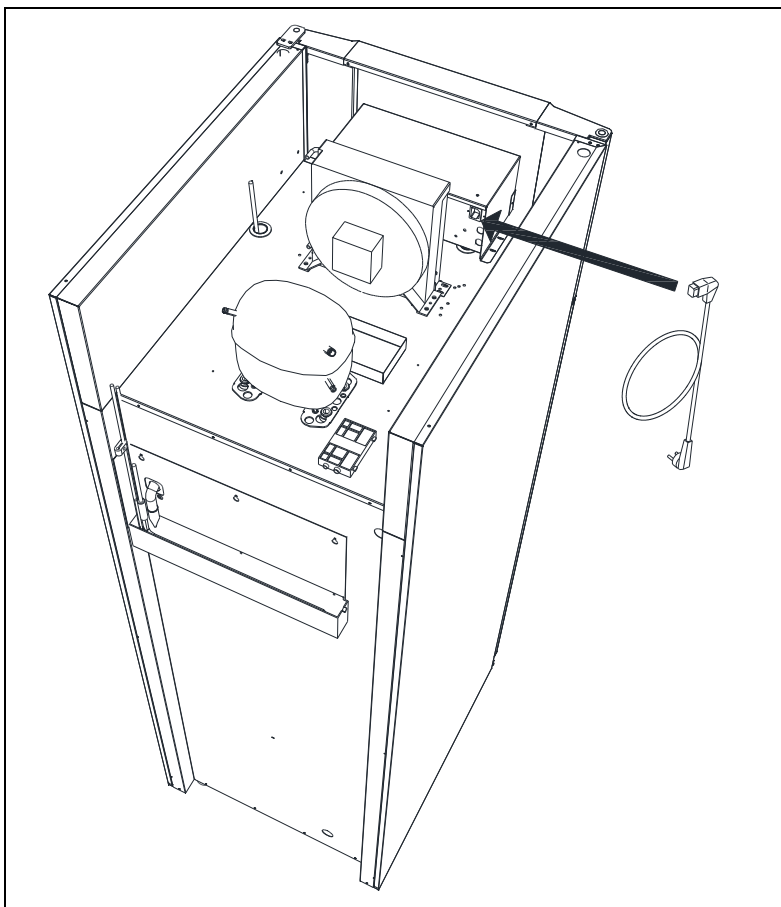

Fig. 6
The cabinet is intended for connection to alternating current. The connection voltage (V) and frequency (Hz) are shown on the name plate in the cabinet (see Fig. 9). Only the supplied detachable cord is to be used (see Fig. 6).